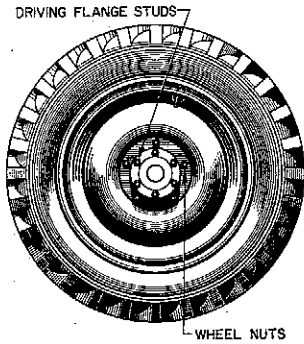

Fig. 12
4. Remove the five nuts holding the wheel to the hub. See Figure 12. The wheel can then be removed.